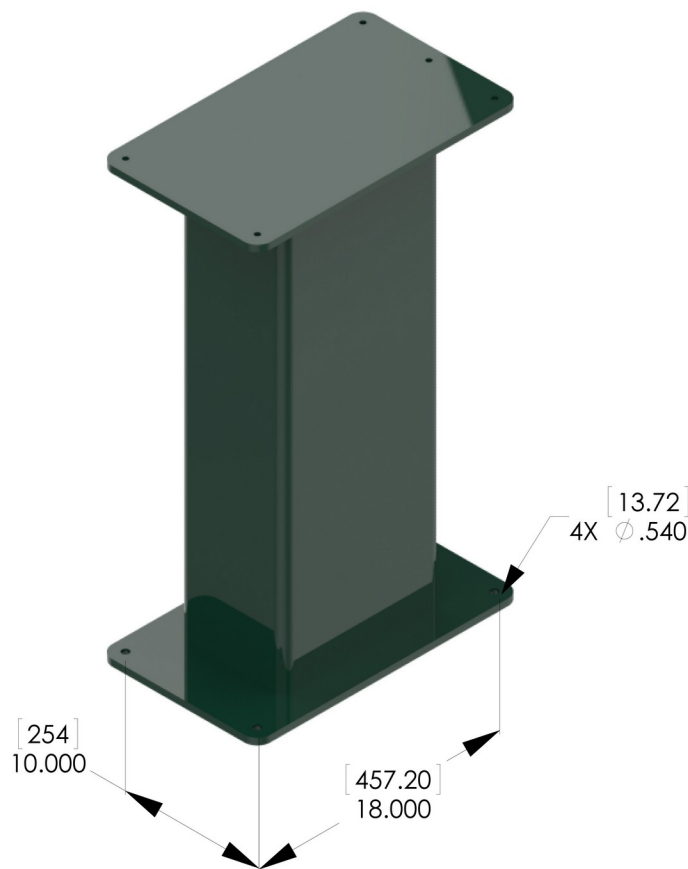

Figure 1. SBS92 Base Plate
The SBS92 Servo Belt Stand is secured by four (4) fasteners passing through mounting holes located in the Base Plate (See Figure 1). The SBS92 must be securely mounted to keep the unit from moving during operation. The unit must be mounted level to achieve the desired force output at the Contact Wheels. A spirit level can be placed on the top of the Belt Stand and shims can be inserted under the Base Plate as required.